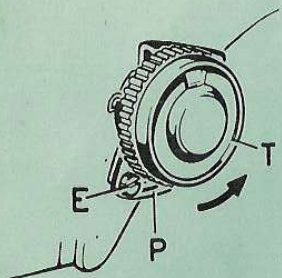

Fig. 11
- To loosen the upper thread tension, turn button « T » (Fig. 11) in the direction of the arrow. By turning button « T » in the opposite direction the tension will be increased.
NOTE: When sewing on hard or thick fabrics, it is advisable to loosen screw « E » (Fig. 11) and slightly move small plate « P » in the direction opposite to that of the arrow.